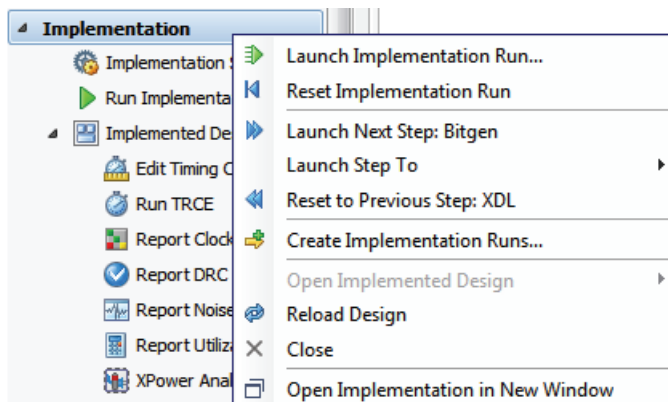

Figure 9-1: Flow Navigator: Create Implementation Runs
- In the Flow Navigator, click **Create Implementation Runs** from the Implementation popup menu, as shown in Figure 9-1, page 288.